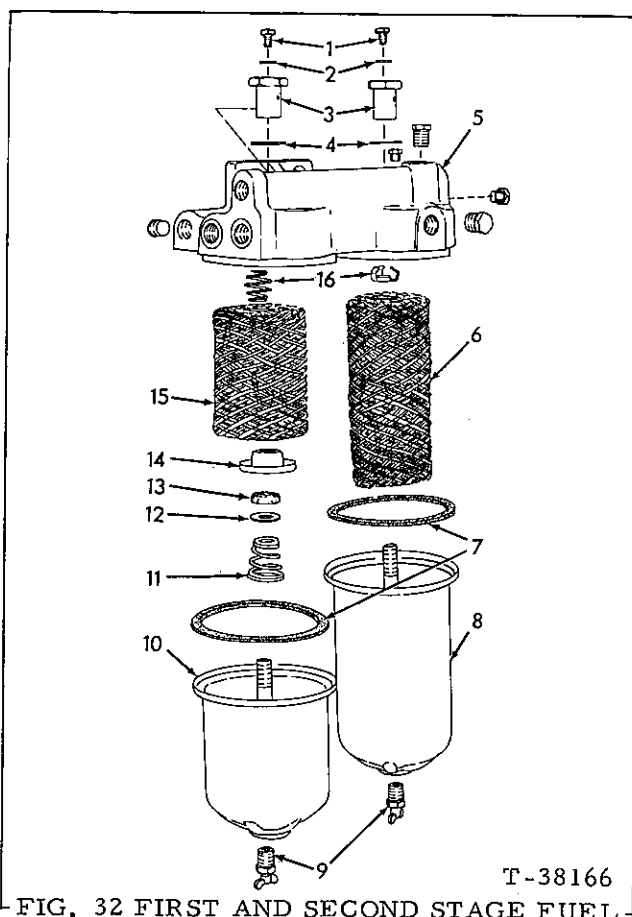

FIG. 32 FIRST AND SECOND STAGE FUEL FILTER PARTS
Open drain cock Fig. 32, in bottom of each fuel filter shell daily, before start of day's operation in warm weather or shortly after end of day's operation in freezing weather, and allow any water or sediment to drain. Close drain cocks as soon as clean fuel
3. REPLACEMENT OF FIRST STAGE FUEL FILTER ELEMENT (Fig. 32)
4. REPLACEMENT OF SECOND STAGE FUEL FILTER ELEMENT (Fig. 32)